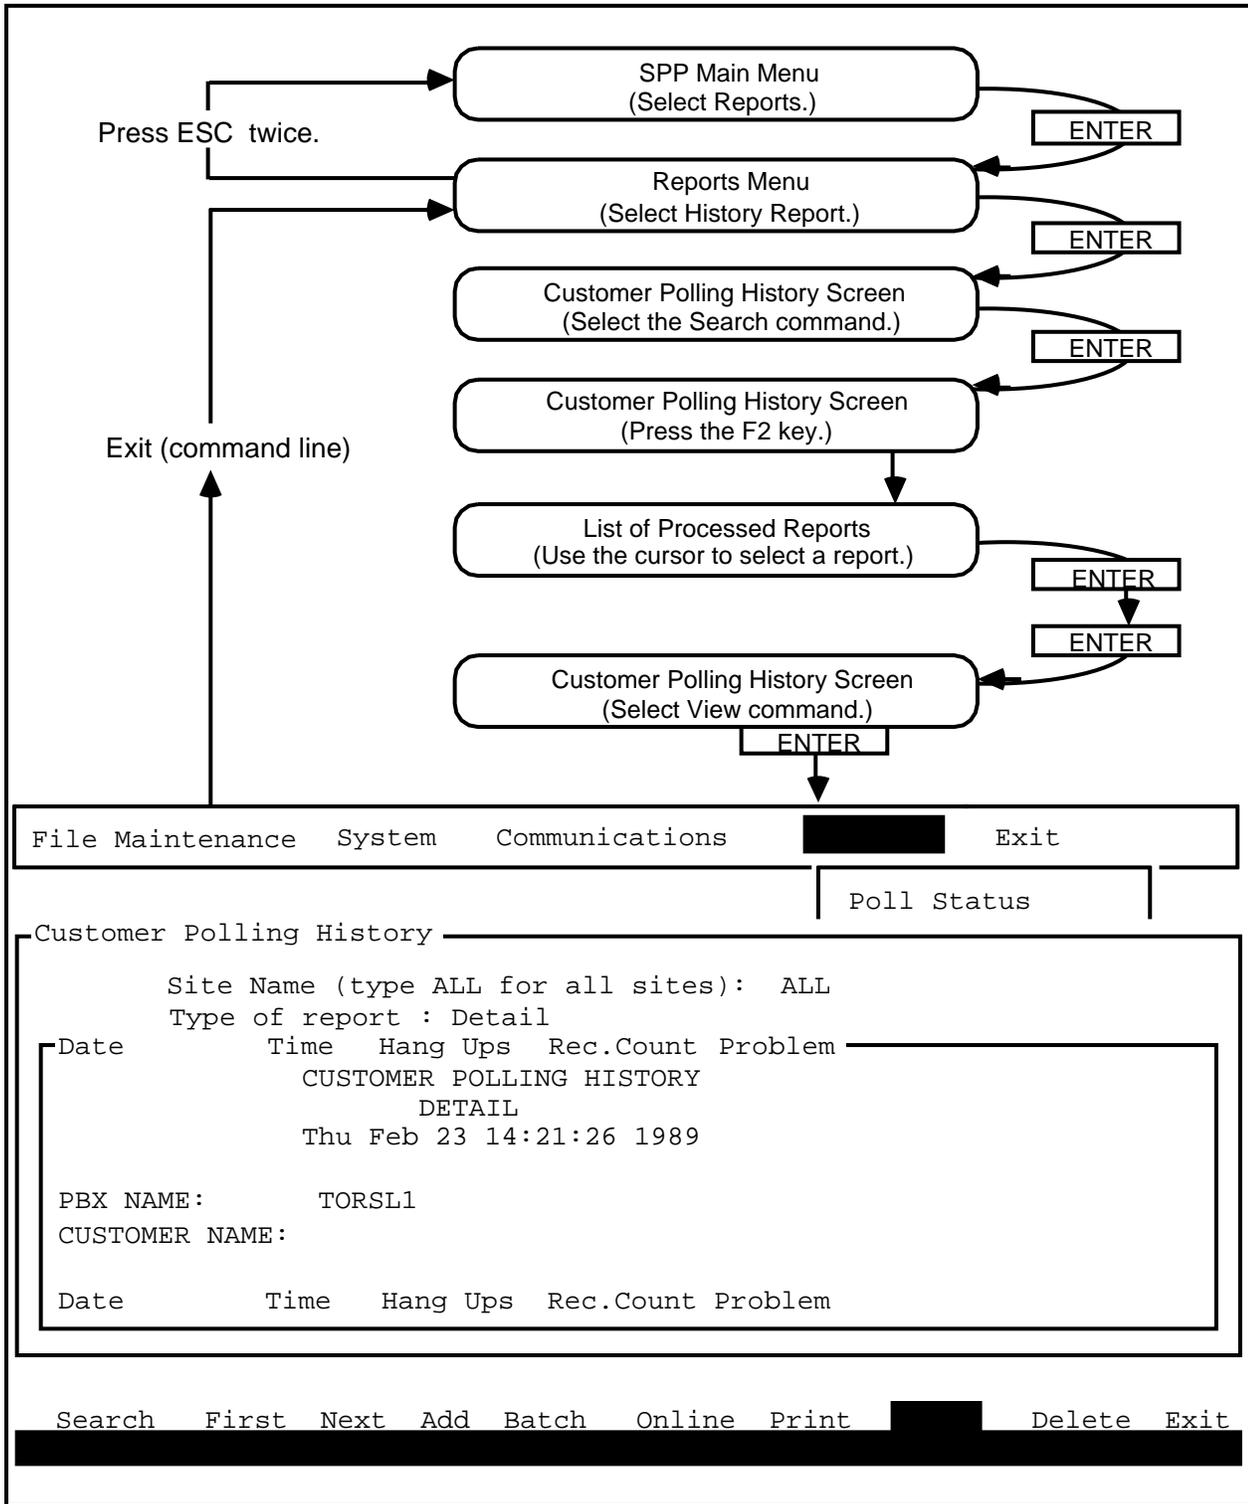

Fig. 6-9
6.24 To select and view processed customer polling history reports (see Fig.6-9), proceed as follows: